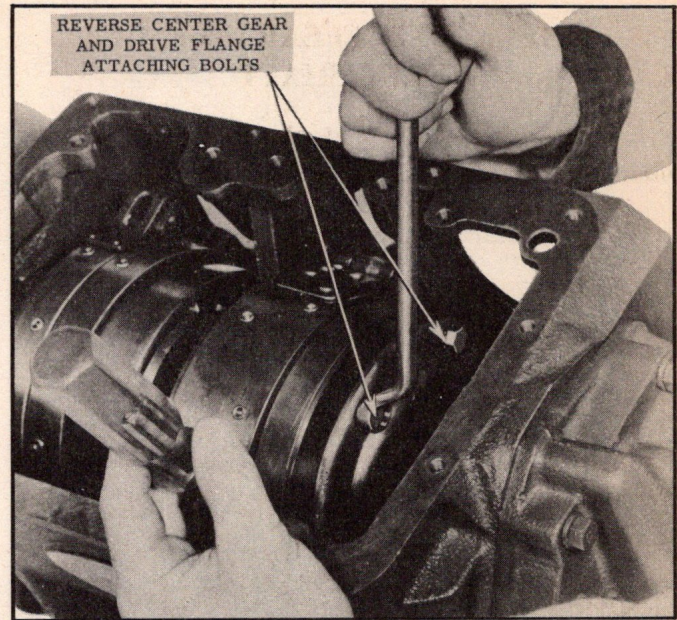

Fig. 127—Removing Reverse Center Gear and Drive Flange Attaching Bolts
2. Remove six reverse center gear and drive flange attaching bolts ($\frac{1}{2}$ " wrench). Drive flange can be held from turning by bracing screw driver under drive flange bolt head (Fig. 127).